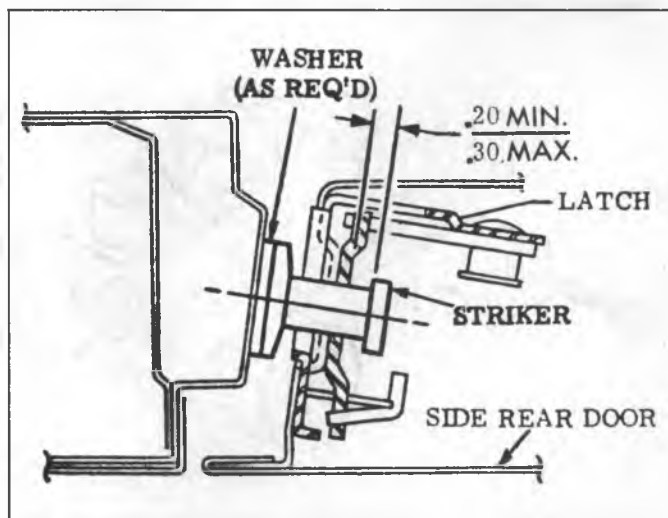

Fig. 30—Rear Striker Adjustment
7. Open door and measure distance from rear of striker head to the impression. Distance should be a minimum of .20" and .30" maximum. (Fig. 30)